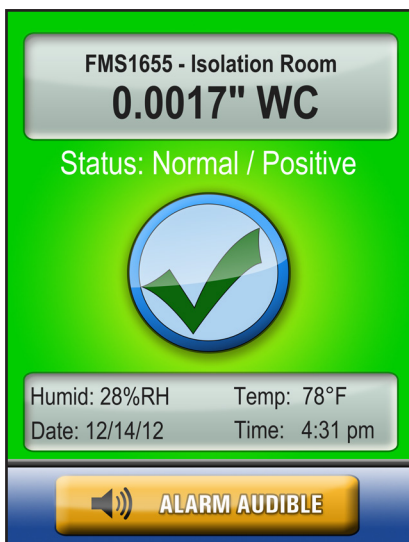

Figure 61. Normal status is indicated by a green background on the main display.
- *Normal status* indicates that the monitored input is within its normal operating range and is indicated by a green background as shown in Figure 61.